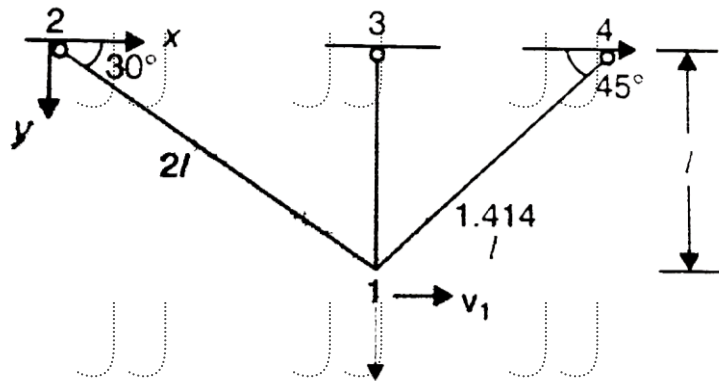

Figure 5
10. Find the natural frequency of the following truss bar figure 5.